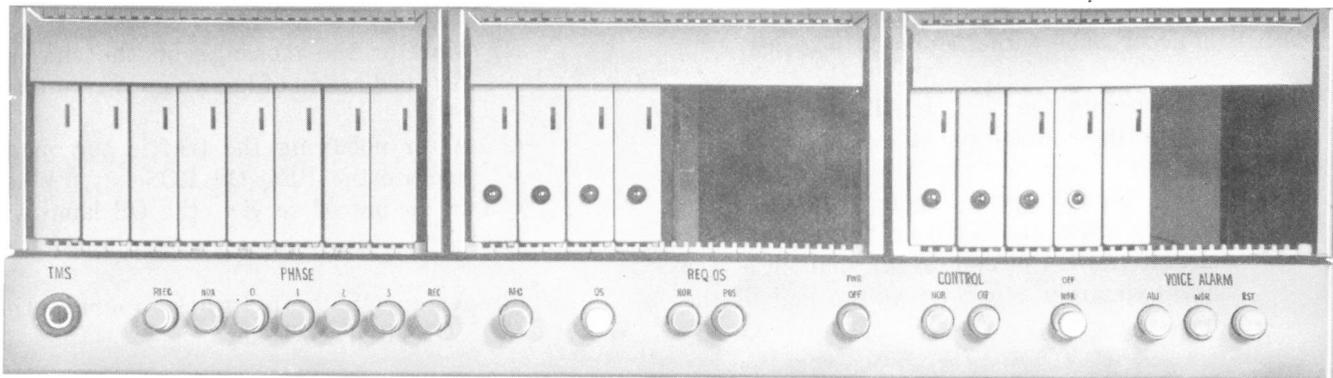

Fig. 12—Phased Message Channel Module and Control Unit
- (1) Monitor the message on the channel for verification of known good recording.
- (2) After notifying the traffic personnel, operate the REQ OS ROS key. When channel is out of service, the OS lamp will light.
- (3) After OS lamp lights, operate the CONTROL OFF key.
- (4) Remove the four switching alarm circuit packs (A1020 circuit packs) from the channel module under test.
- (5) Operate the CONTROL NOR key of channel module under test.
- (6) Operate the VOICE ALARM ADJ key on the control unit (Fig. 12).
- (7) After 3-5 cycles through the complete message (all four phases), the lamp on each alarm circuit (A1014 circuit pack) should light for approximately 1 second at the end of the associated phase.
- (8) If the requirement is met or after making the adjustments, operate the CONTROL OFF key on control panel.
- (9) Remount the four switch alarm cards in the channel module.
- (1) Using the W1 patch cord, connect the TMS jack (Fig. 12) to the MEAS jack of the transmission measuring set.
- (2) Set the transmission measuring set INPUT to 600 and the ADD DBM switch to the level closest to the nominal transmission level desired.
- (3) At the control unit, select the phase to be measured by operating the PHASE key associated with that phase.
- (4) Note the output indication on the transmission measuring set. The transmission level is equal to the average
- (1) Monitor the message on the phase in question for verification of a known good recording.
- (2) Operate the REQ OS ROS key and the CONTROL OFF key on the control unit (Fig. 12).
- (3) Remove the switching alarm (A1020 circuit pack) from the channel module associated with the phase in question. Mount the circuit pack in an extender card and place the extender card in the channel module.
- (4) Connect the two inputs of the oscilloscope to pins 3 and 4 of the A1020 circuit pack.
- (5) Set the oscilloscope to ADD MODE, pull the invert button, set both channels
- (6) Select the phase in question by operating the PHASE (0-3) key.
- (7) Operate the CONTROL NOR key on the control unit (Fig. 12).
- (8) Observe the oscilloscope display.
- (9) If requirement is met or after making the adjustments, operate the CONTROL OFF key.
- (10) Disconnect the oscilloscope leads, remove the extender card, and remount the A1020 circuit pack in the channel module.
- (11) Operate the CONTROL NOR key and the REQ OS NOR key.